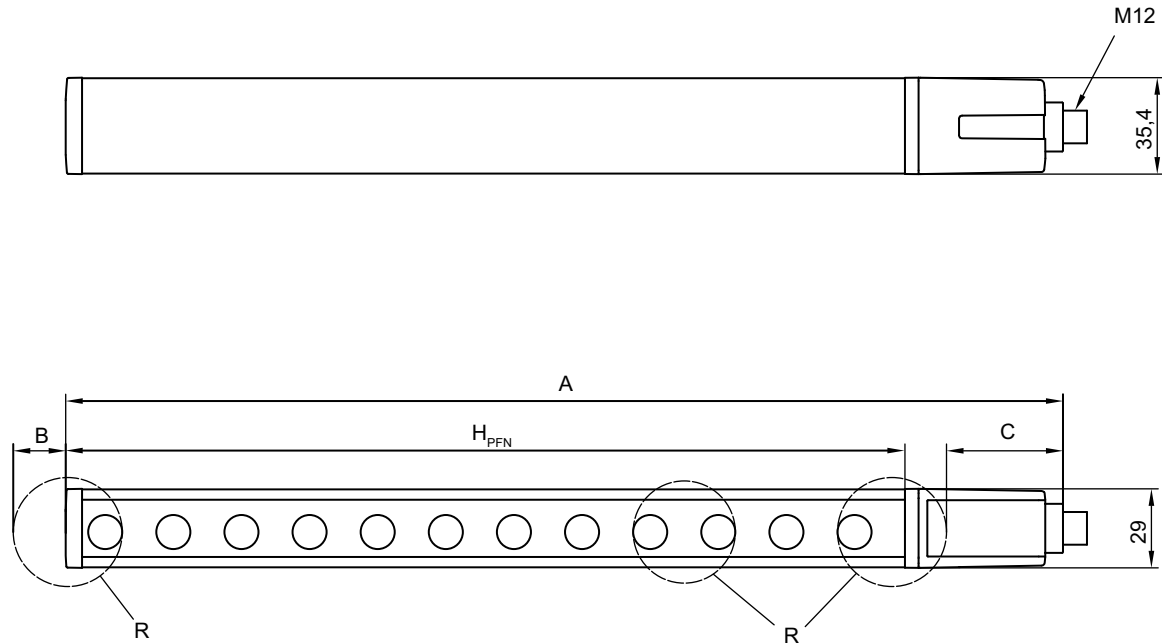

Figure 14.1: Dimensions of transmitter and receiver
Dimensions	see figure 14.1 and see table 14.6
b) Total height, see figure 14.1